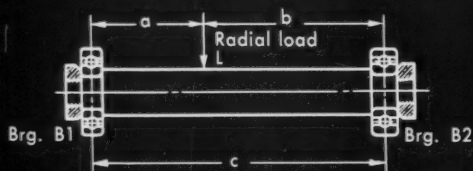

Fig. 3a
- (1) The load "L" may be imposed between the two bearings as in Fig. 3a.
For Fig. 3a:
EXAMPLE: (Fig. 3a.) Let $a = 5''$; $b = 10''$; $c = 15''$ and radial load (L) = 990 lb.